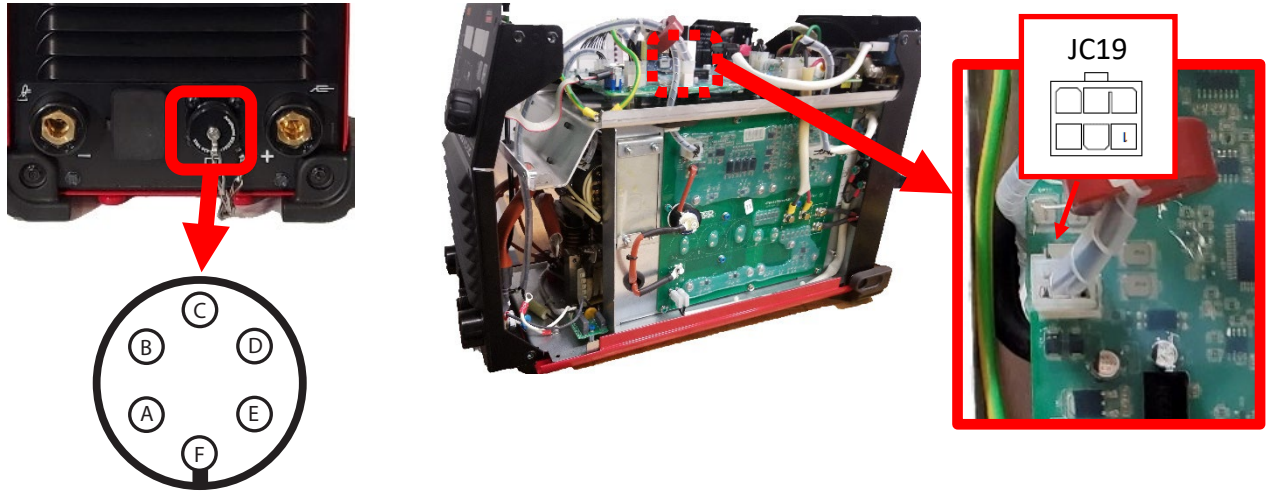

Figure F.2
A.2. Perform the static measurements in Test Table 1, refer to Figure F.2 for test point locations.